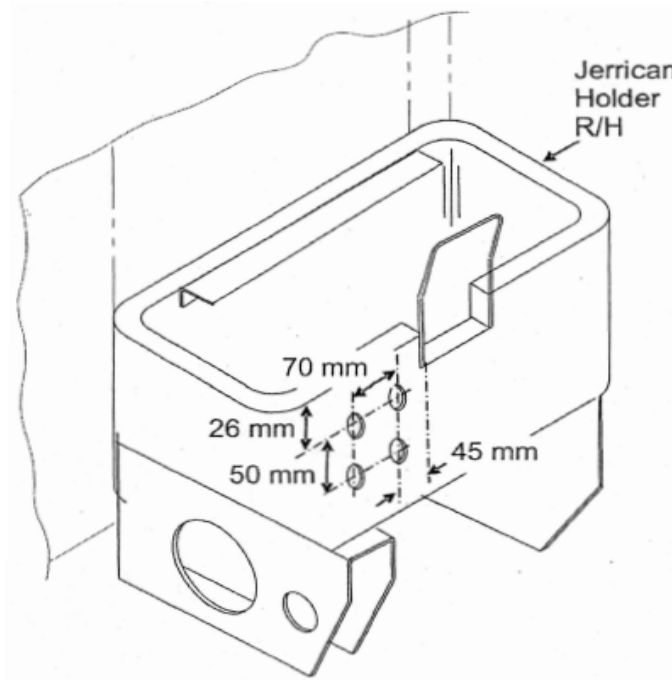

Figure 1 Position of Holes
- mark and centre punch the four (4) holes (to be drilled), as detailed in Figure 1;
- drill four (4) holes using 11 mm drill bit; and